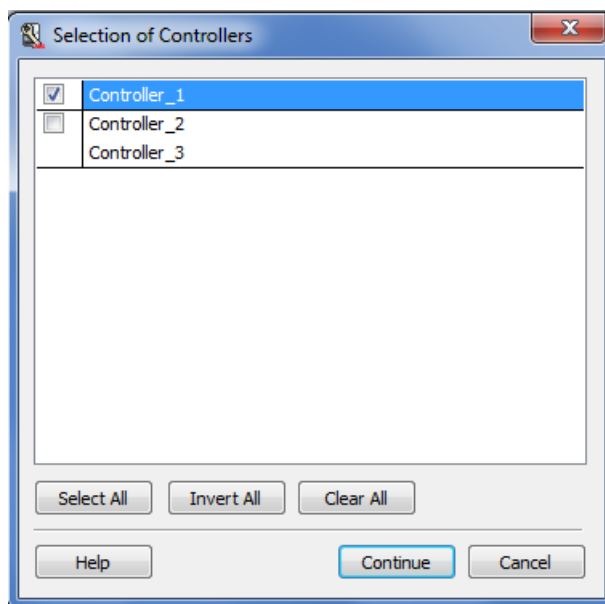

Figure 67. Selective of Controllers dialog
If you select **Tools > Download Project and Go Online** for a project with more than one controller, the Selection of Controllers dialog will be displayed. For example, in Figure 67, “Controller_2” and “Controller_3” cannot be separately selected or excluded since one application is connected to both these controllers.
- 1. Click **Continue**-button in Figure 67, an Online Analysis window will open.